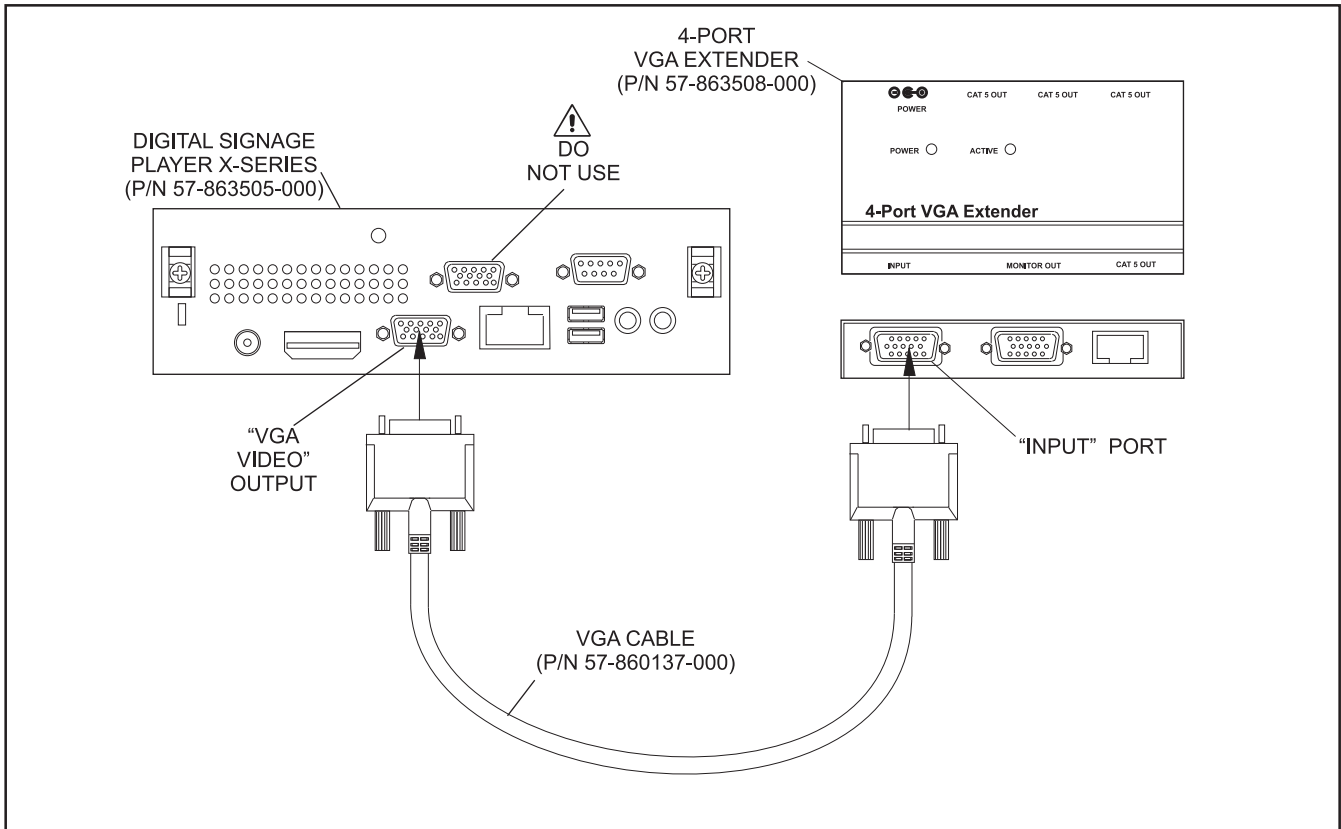

Figure 3. X-Series Digital Signage player
1. Connect the VGA cable (P/N 57-863137-000) to the VGA video output on the X Series Digital Signage player. Refer to *Figure 3*.